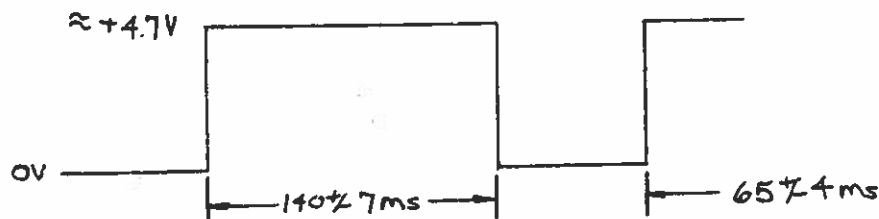

fig. 1
e) Check CP8 on the '503 card for fig. 1.